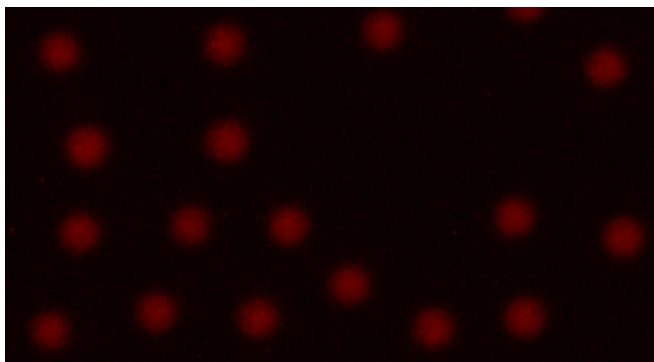

Figure 5. Ideal focus for beads in the red channel.
- h. Begin adjusting the focus by zooming in on the beads using pinch/zoom. Focus so that the beads appear sharp against the background as in Figure 5 below. Press OK to save the focus position. Please note that autofocus should not be used during this process.